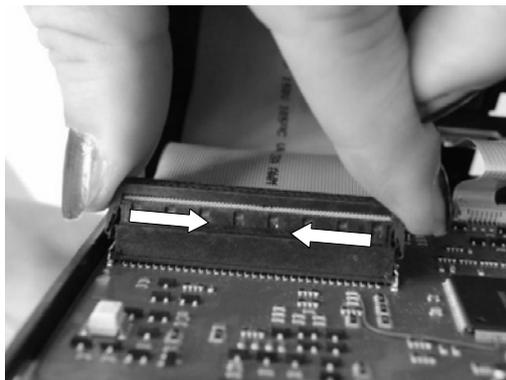

Fig. 3
4. Unplug the flat cable (press release latches on both sides) and remove the selector (*Fig. 3*).